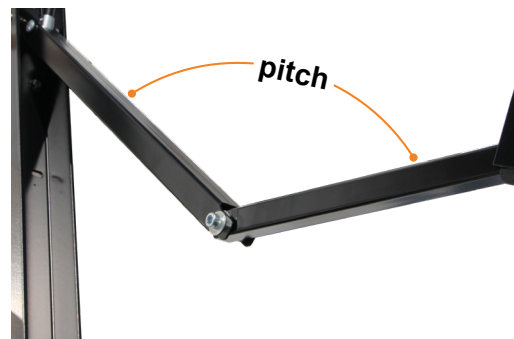

Fig.17
6. Choose the side of the awning for optimum shade or convenient water runoff. Pull downward on the joint of the pitch arm until desired pitch is set (**Fig.17**) to allow for water runoff.